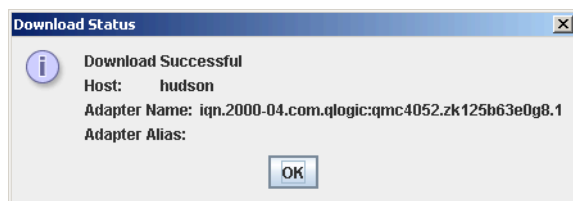

Figure 21-34 SANsurfer - Firmware download status
12. The firmware update is performed. A message similar to Figure 21-34 displays when the update has finished successfully. Click **OK**.